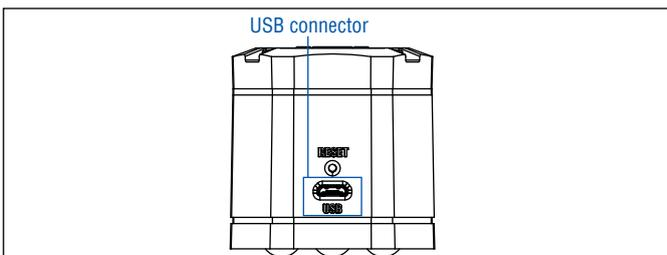

Fig. 120: USB port on the TempoLink® smart assistant
1. Connect the USB cable with the micro USB connector to the port labeled “USB” on the TempoLink® smart assistant (Fig. 120).